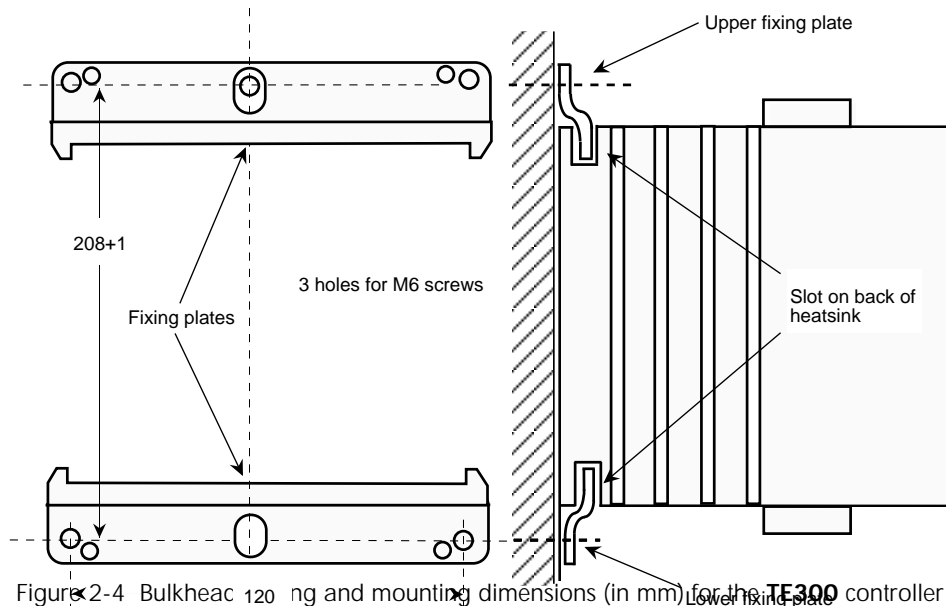

Figure 2-4 Bulkhead mounting and mounting dimensions (in mm) for the TE300 controller
- Drill three holes for M6 screws following the dimensions given in Figure 2-4